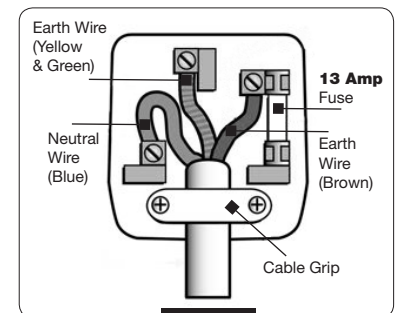

Fig.9
- Ensure that the power supply matches voltage requirements specified on the equipment and that the plug is wired correctly and fitted with the correct fuse (See **Fig.9**).